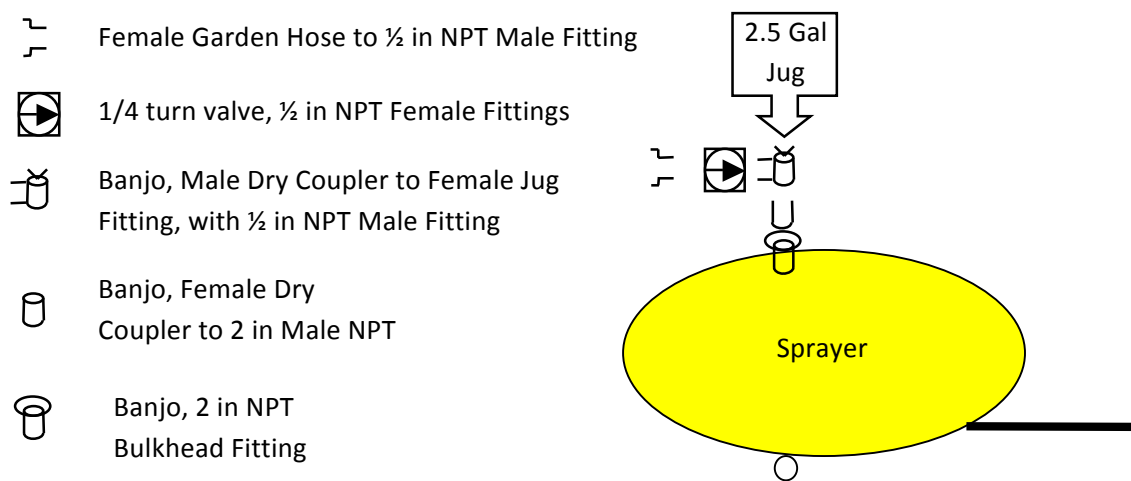

Figure 2. Basic closed system for loading and rinsing an entire container.
I. Basic System: The most simple and basic closed loading system (Figure 2) could be built to allow the contents of an entire pesticide container to be loaded directly into the sprayer. This system would be used to transfer an entire container of material into a sprayer tank and then rinse the container. In use, the sprayer would be filled to approx. 80% of the application volume of water before active ingredient was added. A 2" NPT bulkhead fitting would be installed on the sprayer or mix tank and the closed system connector plumbed into it. After emptying the container, a standard garden hose would be attached to the container and used to rinse the container with the rinsate going into the spray tank.